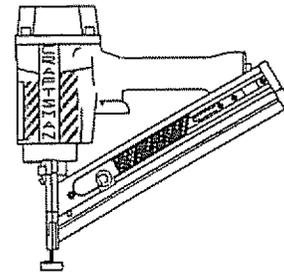
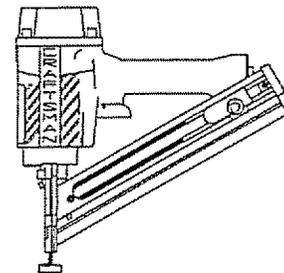
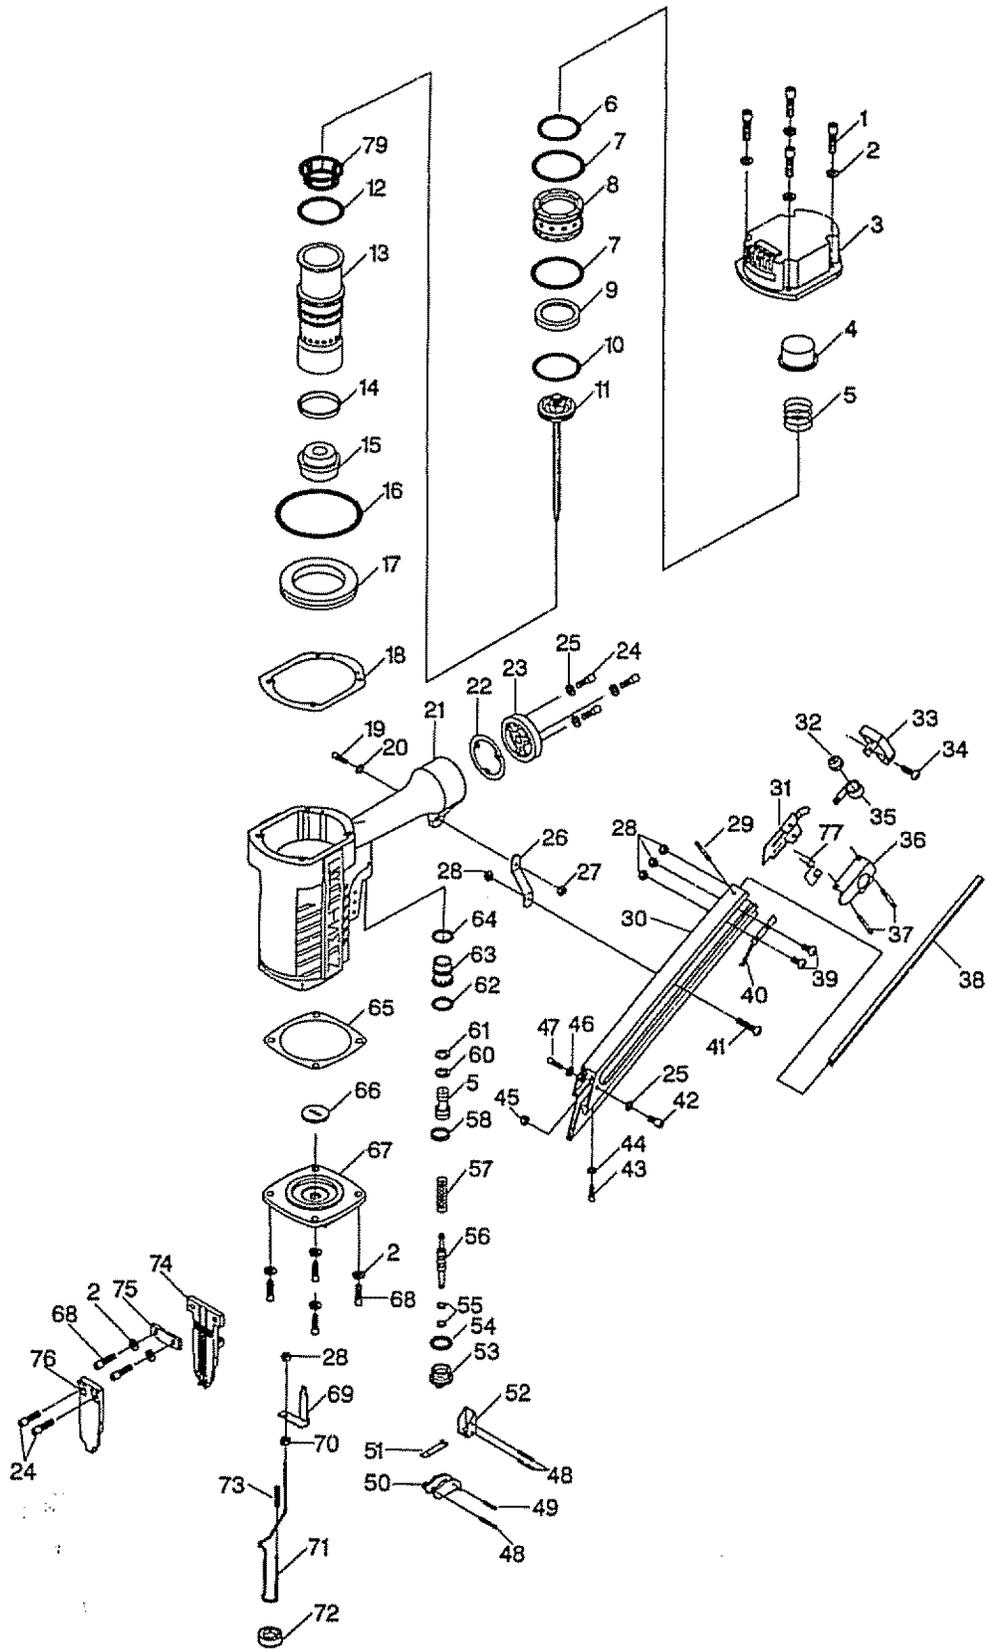

Figure 2b - Loading
Figure 2c - Loading
Figure 5 - Replacement Parts Illustration
2. Slide nails to front of magazine past nail stop bracket (Key No. 40, Figure 5). See Figure 2b below.
3. Slide pusher (Key No. 31, Figure 5) over nails and nail stop bracket to rear of magazine. Slide pusher forward against nails. See Figure 2c below.
Place finger inside round hole in pusher cover and press pusher (Key No. 31, Figure 5) to release nails. Slide pusher to front of magazine. Slide nails out of rear of magazine.
Refer to Figure 5.